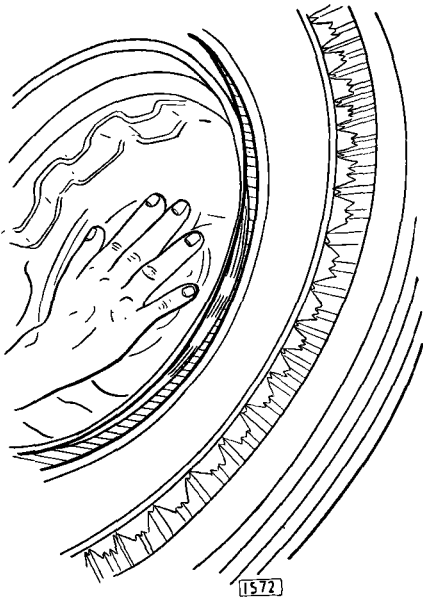

Fig. 22. Seating the reverse bead.
4. Reverse assembly, taking care not to dislodge first bead, and lean at a greater angle. (Fig. 22.)
5. With valve core removed attach air line. Whilst inflating, press gently against wheel centre to seal second bead. (Fig. 22.) Alternating hand pressure rather than continuous pressure may be found helpful. Continue to inflate until beads obtain a hold on the rim seats.